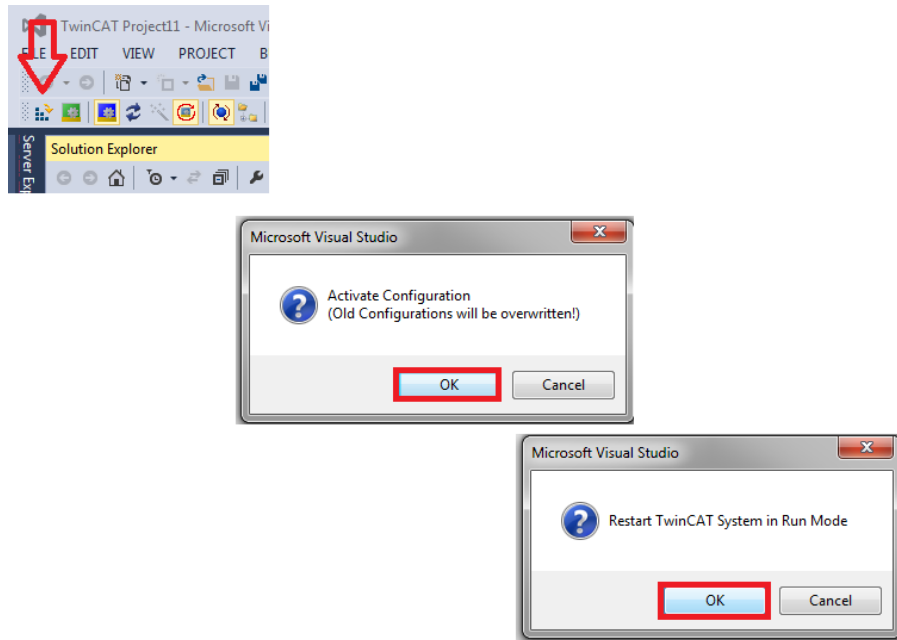

Figure 23: activate configuration and start TwinCAT in Run Mode
- d. Activate configuration and start TwinCAT in Run Mode (Figure 23). The command “Activate Configuration” shall be applied every time one or more parameters are changed in the configuration and the changes need to be applied (similar from this point of view to “Reload Devices” command in Free Run mode).